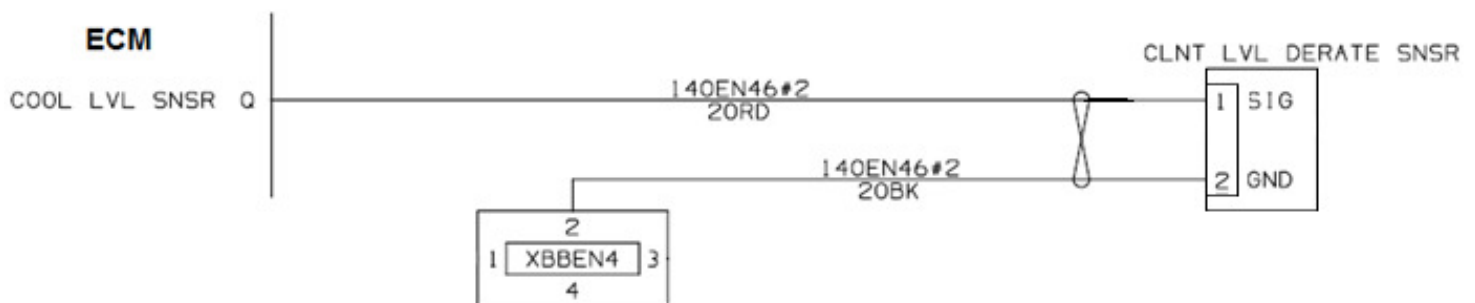

Figure 3: Surge Tank Derate Low Coolant Sensor Circuit
- Connect the newly terminated low coolant harness from Step 9 to the newly installed surge tank low coolant derate sensor from Step 5. See Figure 3 for correct rework wiring schematic.